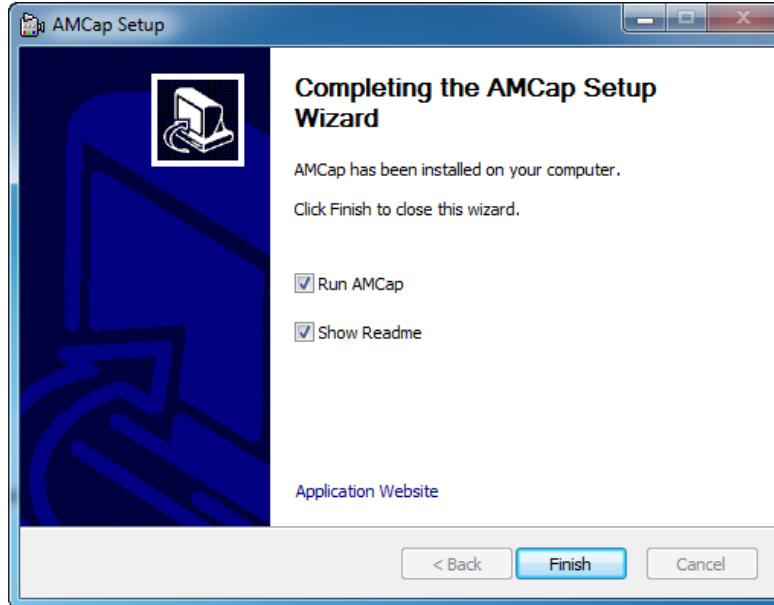

Figure 8-49: AMCap Driver Installation Complete
Step 13: When the driver installation is complete, the screen in **Figure 8-49** appears.